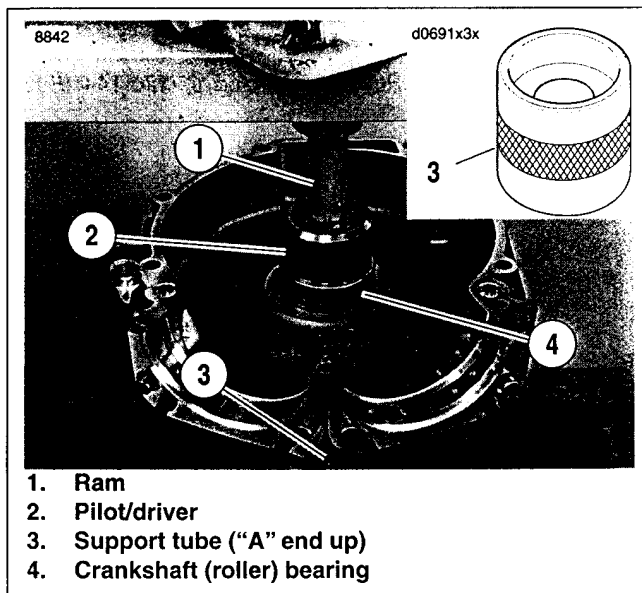

Figure 3-161. Left Crankshaft (Roller) Bearing Installation
2. See Figure 3-161. Obtain **new** crankshaft (roller) bearing (3). Spread a thin film of clean engine oil on O.D. of **new** bearing.
3. Place support tube (3) on hydraulic press table with the "A" end up.
6. Slide pilot/driver (2) through bearing into support tube.
7. Center pilot/driver (2) under ram (1) of press. Apply pressure to pilot/driver until bearing is lightly bottomed in crankshaft bearing bore.